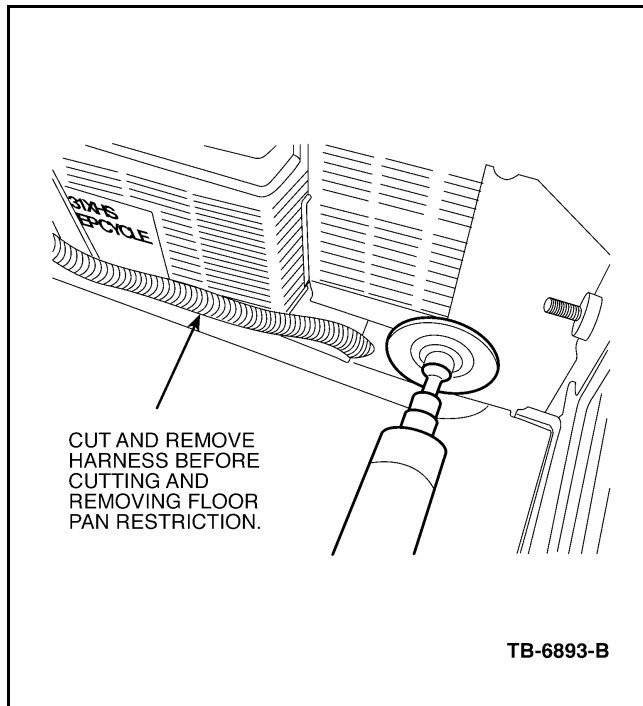

Figure 1 - Article 03-2-1
27. Remove the plastic floor pan restriction from where the harness passes through the floor pan. See Figure 1.